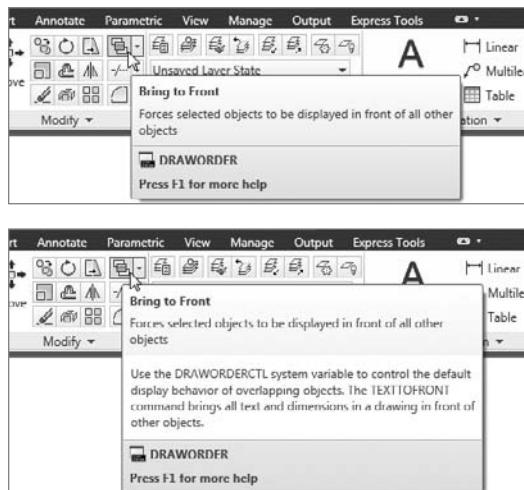

FIGURE 1.23 The tooltip for the Bring To Front command (top) and the extended tooltip (bottom)
This exposes the button's tooltip, as shown at the top of Figure 1.23. Displaying the name of the tool, the tooltip also provides a brief description of its function, the command-line equivalent of clicking the tool, and instructions to press the F1 key to open the AutoCAD Help file to the current tool's Help page.
3. After a few seconds of hovering over the Bring To Front button, the tooltip expands to display the extended tooltip (see the bottom of Figure 1.23) with a more complete description.